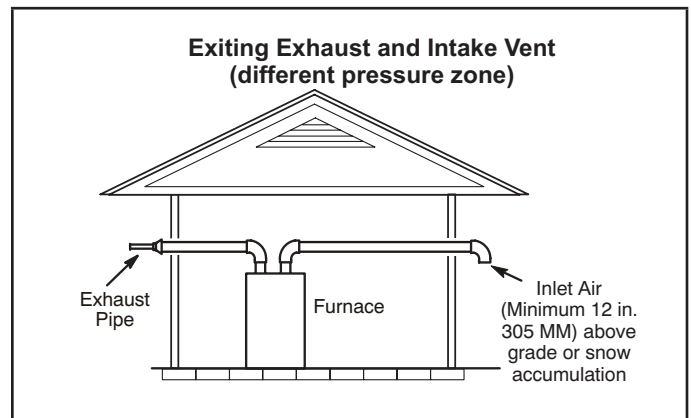
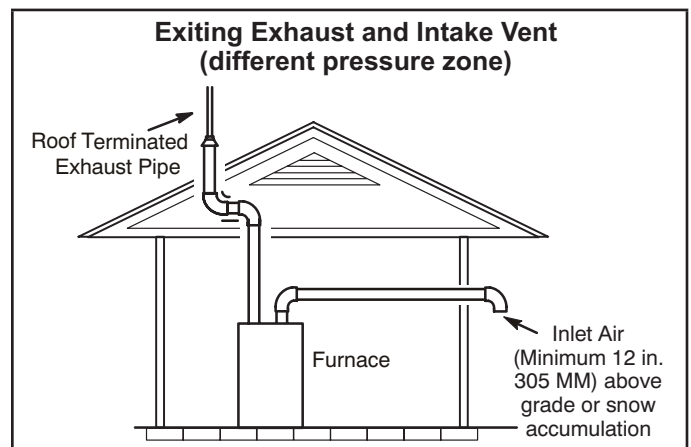

Figure 34
Figure 35
- 1 - Intake and exhaust terminations are not required to be in the same pressure zone. You may exit the intake on one side of the structure and the exhaust on another side (Figure 34). You may exit the exhaust out the roof and the intake out the side of the structure (Figure 35).